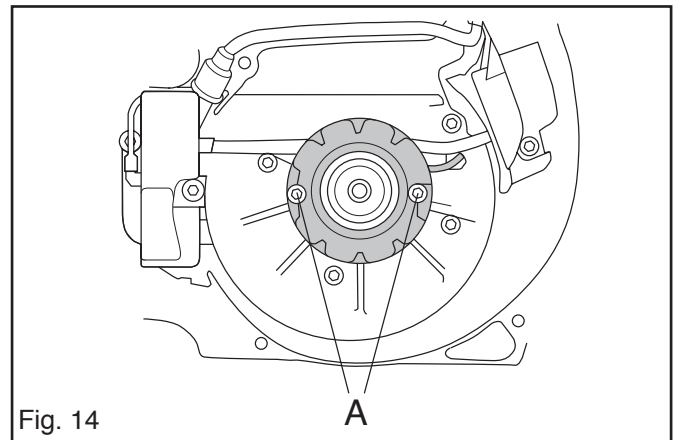

Fig. 14
8. Dismantle the screws (A) on the generator. See fig. 14.